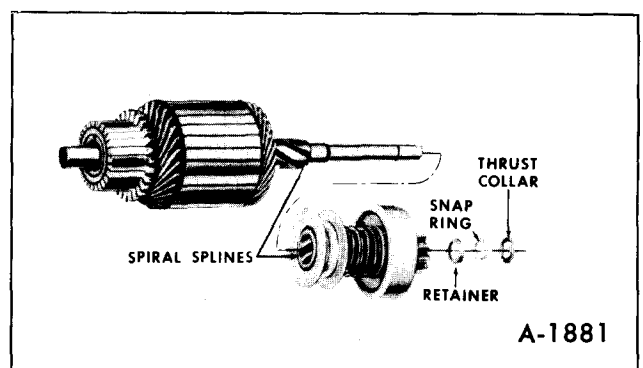

Figure 68—Starter Clutch
a. Remove thrust collar from armature shaft. (figure 68)
- b. Slide clutch assembly onto armature shaft with pinion away from armature. (figure 68)